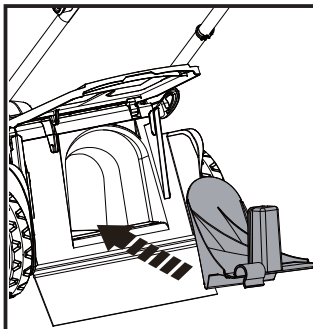
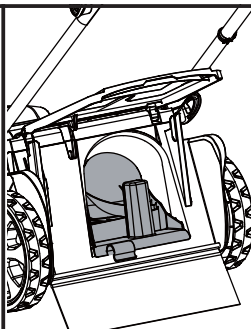

Fig. 6
Fig. 7
2. Lift the safety flap and hold it in position. Insert the mulching plug into the rear discharge chute (Fig. 6). Ensure the locking button snaps into place, as picture shown (Fig. 7).